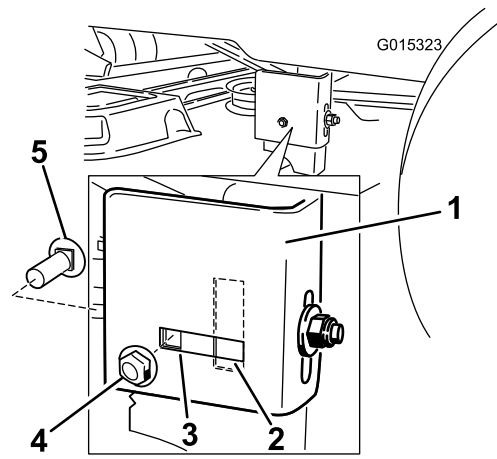

Figure 57
- Move to the left side of the machine. Check if the side carriage bolt is in the fixed or slotted position (Figure 57).
- If the side carriage bolt is in the fixed position, remove the side carriage bolt and side locking nut from the fixed position and install it into the slotted adjustment position (Figure 57).